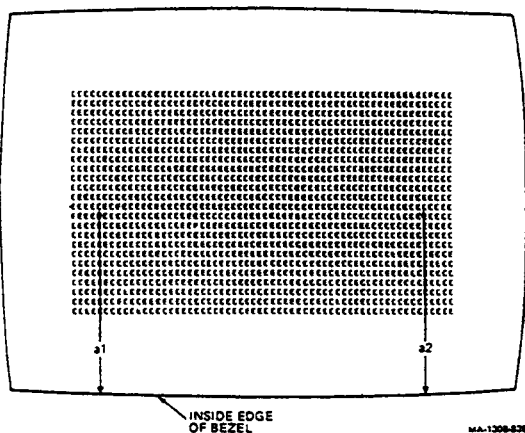

Figure 3-2 Rotation Check
1. Use the scale on the alignment template (PN 29-24371-00) to make the following measurements (Figure 3-2).